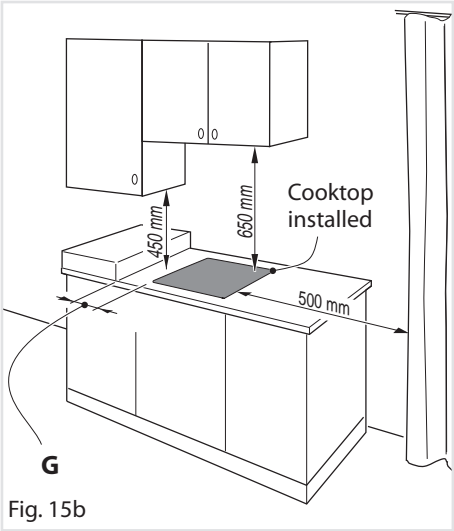

Fig. 15b
- There must be a distance of at least 650 mm between the hob and any wall cupboard or extractor hood positioned immediately above (see fig. 15b).